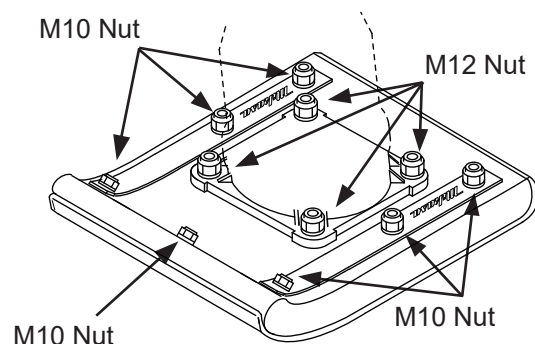

Fig.2
6. Retighten the all nuts for assembling foot. (Fig.2)